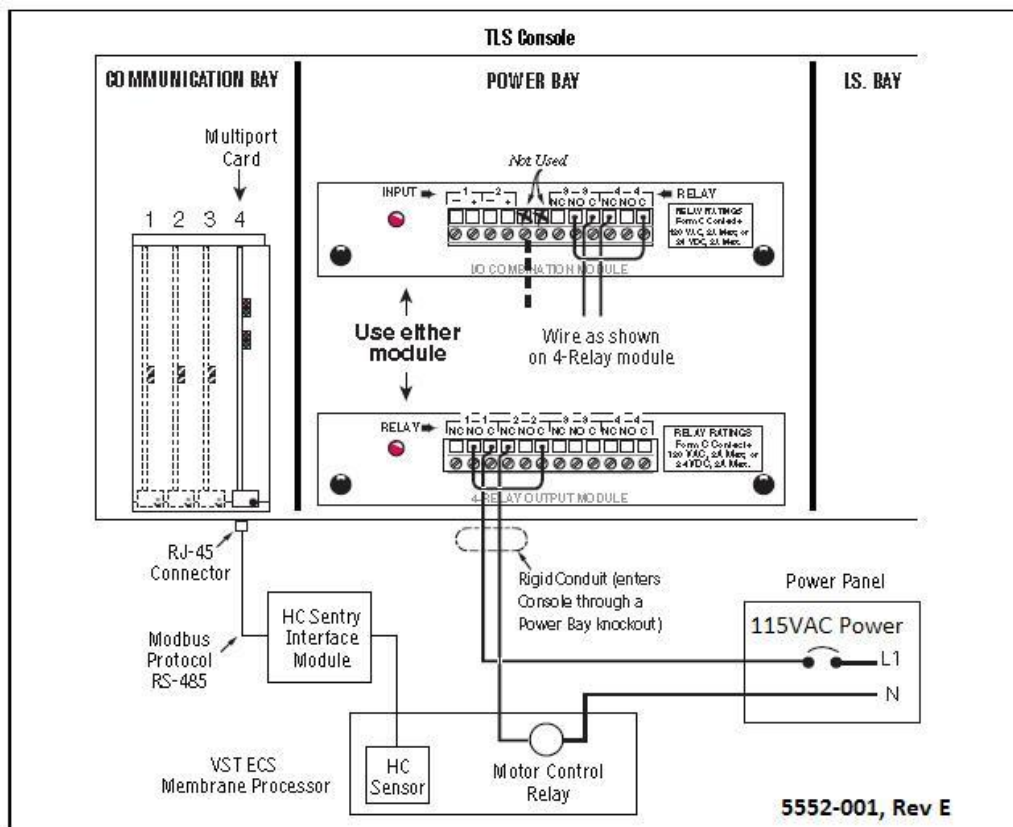

Figure 32: VR TLS Multi-Port Card Connection to the HC Sentry Module
- **See Figure 32** TLS / HC Sentry RS-485 Cable for the wiring diagram.